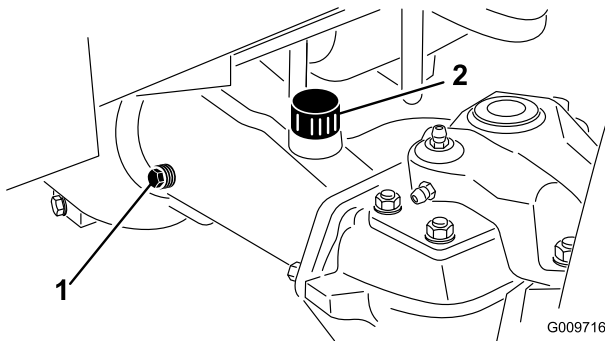

Figure 69
2. Remove a check plug (Figure 69) from one end of axle and make sure lubricant is up to bottom of hole. If level is low, remove the fill plug (Figure 69) and add enough lubricant to bring the level up to the bottom of the check plug holes.